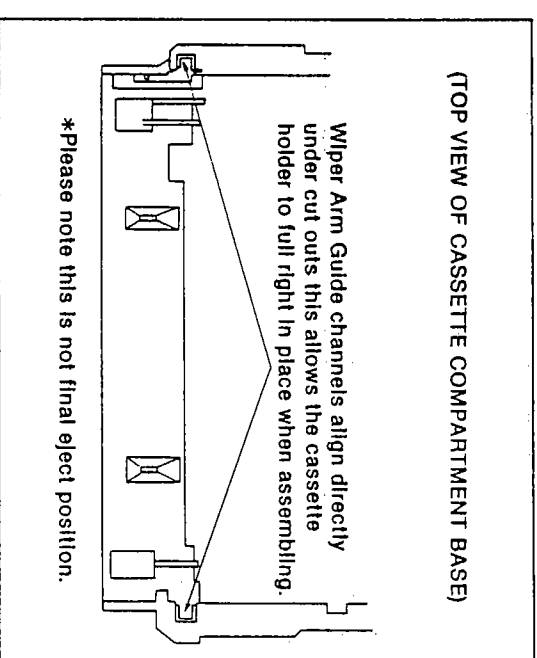

Figure M62
7. Stop the manual eject procedure just before completion, so that the Sub Wiper Arms straight up. This position is also characterized by the channel guides (in the Wiper Arms) being directly under the cut outs on the top of the Cassette compartment base (Figure M62).